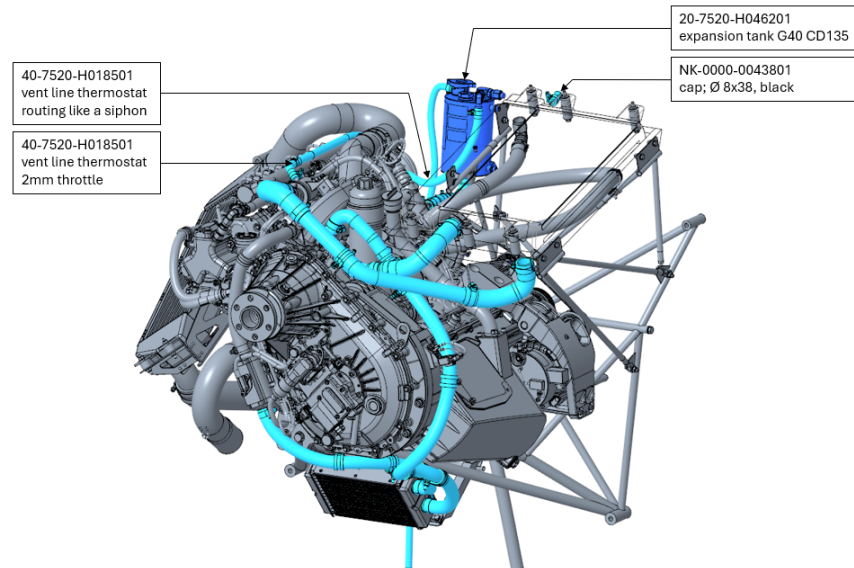

Figure 7: Overview TAE 125-02-99 installation
- b) Attach the vent line (item 1) to the thermostat using a clamp (item 3). The throttle, integrated in the vent line, must be located on thermostat side and the arrow labelled on the vent line must point towards the expansion tank. Refer to figure 7.
- c) Route the thermostat vent line towards the expansion tank while ensuring a U-shaped layout (*lowest point below the expansion tank bottom*). Refer to figure 7. Attach the thermostat vent line to the angled connection of the expansion tank using a clamp (item 3).
- d) Close the vent line connection of the main radiator using the cap (item 4) and a clamp (item 3).
- e) Finally, reconnect the lower coolant hose using a clamp (item 5) as well as the bleeder hose and the sensor wire.